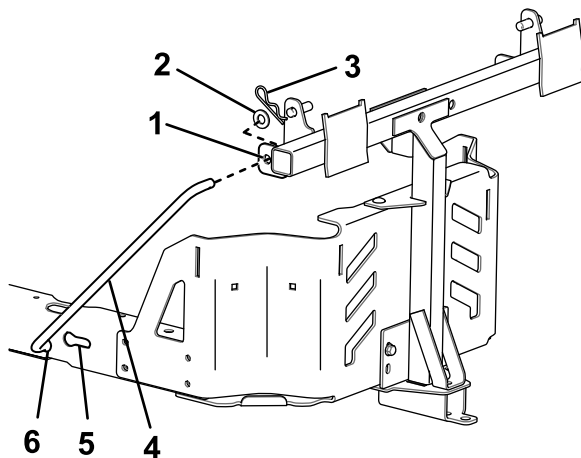

Figure 10
6. Install the bent, flared end of a rod into the keyed slot in the left side of the machine frame, and move the rod rearward to seat it in the frame (Figure 10).
7. Insert the bent ends of the rods into the attachment mount as shown in Figure 10 and secure the end of each rod with a washer and hairpin cotter.